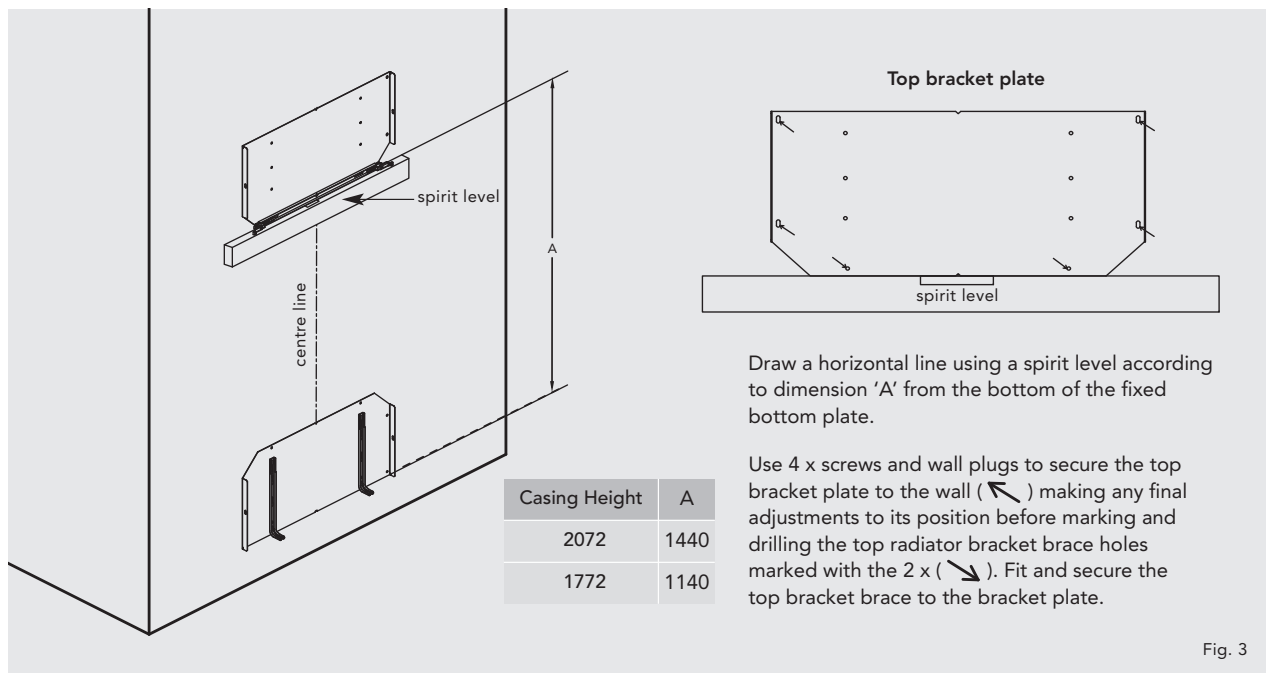

Fig. 3
- Measure using measurement A in Fig.3 from the bottom of the fixed bracket plate on the centred line, to mark the position for the top bracket plate (see Fig. 3).
- Using a spirit level, fix the second bracket plate and the top bracket brace as shown in Fig. 3.